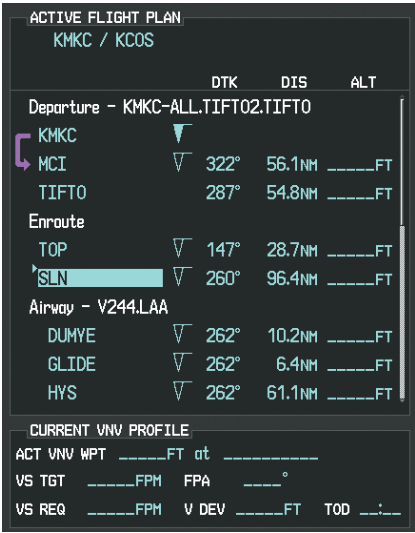

Figure 5-116 TOP Inserted into the Flight Plan
d) Press the **ENT** Key. TOP is inserted into the flight plan as in Figure 5-116.